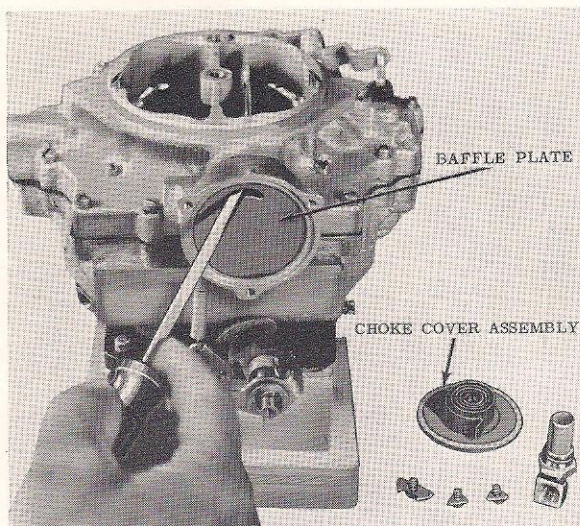

Figure 7-8
5. Remove choke baffle plate. (Figure 7-8.)